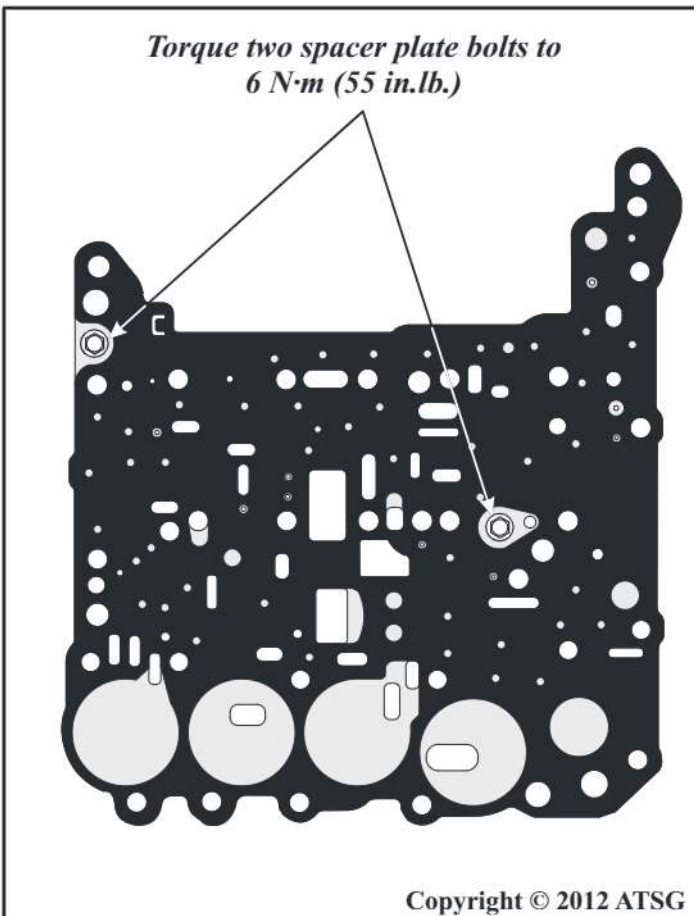

Figure 230
30. Install the hollow dowels into the valve body in positions shown in Figure 230.
31. Install the main valve body spacer plate and bolts, as shown in Figure 230. Torque spacer plate bolts to 6 N·m (55 in.lb.).